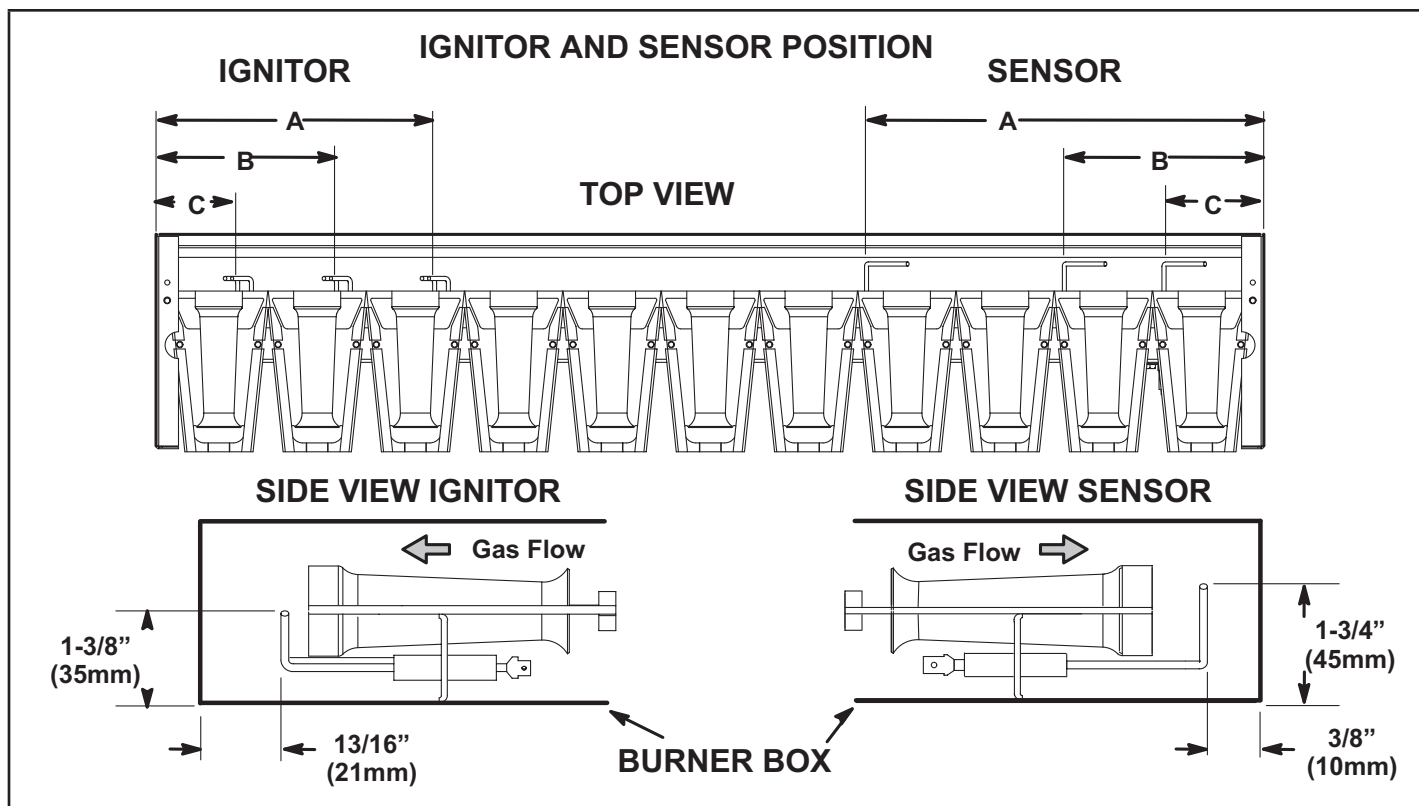

FIGURE 32
- 5 - Check the alignment of the ignitor and the sensor as shown in FIGURE 32 and TABLE 10.